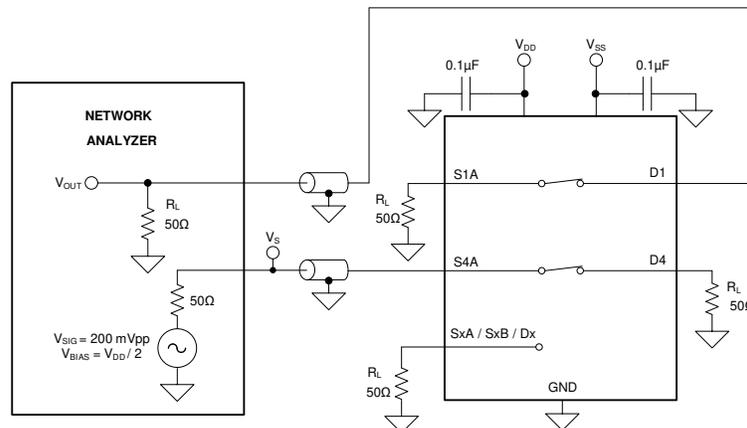

Figure 7-9. Crosstalk Measurement Setup
Crosstalk is defined as the ratio of the signal at the drain pin (D) of a different channel, when a signal is applied at the source pin (Sx) of an on-channel. Figure 7-9 shows the setup used to measure, and the equation used to calculate crosstalk.